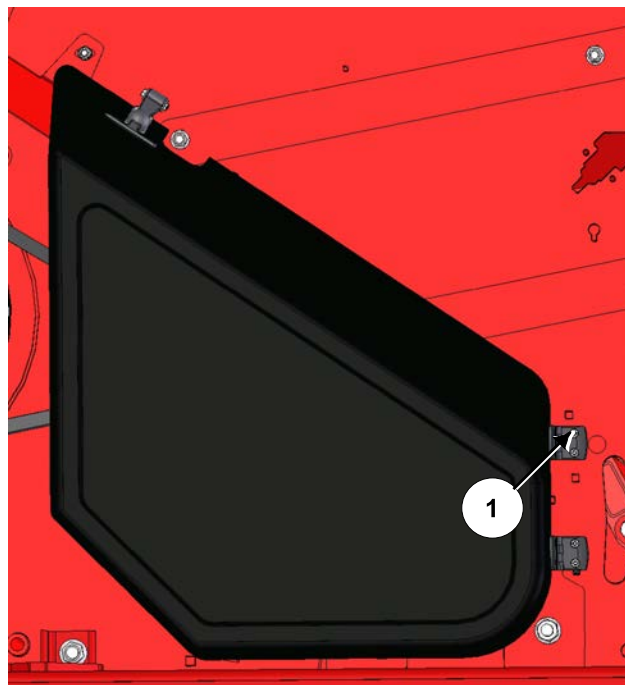

Figure 34: Install the Right Rear Door
29. Install the right rear door, see *Figure 34*.
- Fasten the door with 4 of 1/4" x 1" flat head socket cap screws (1) and flange locknuts.